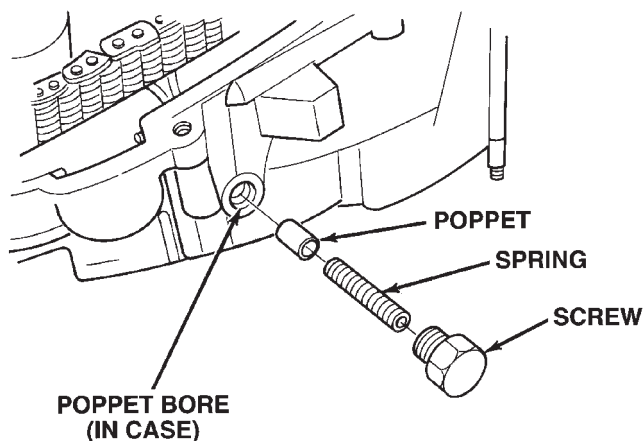

Fig. 67 Shift Detent Components
(10) Rotate sector to Neutral position.
(11) Install new O-ring on detent plug (Fig. 67).
(12) Lubricate detent plunger with transmission fluid or light coat of petroleum jelly.
(13) Install detent plunger, spring and plug (Fig. 67).
(14) Verify that plunger is properly engaged in sector.